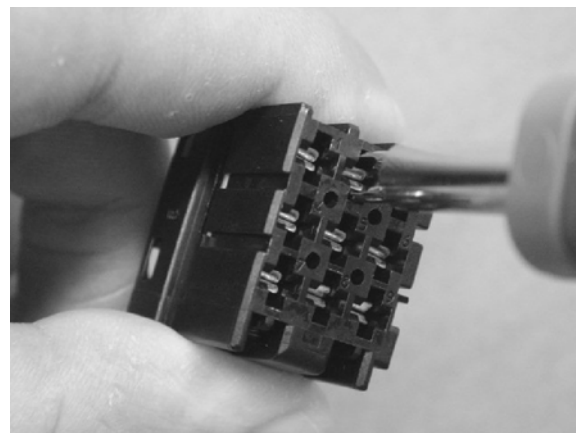

Figure 3
3. Fully insert the extraction tool tips into the windows of the circuit cavity until it bottoms inside the window. The tips of the tool should straddle the contact to be extracted. See Figure 3.